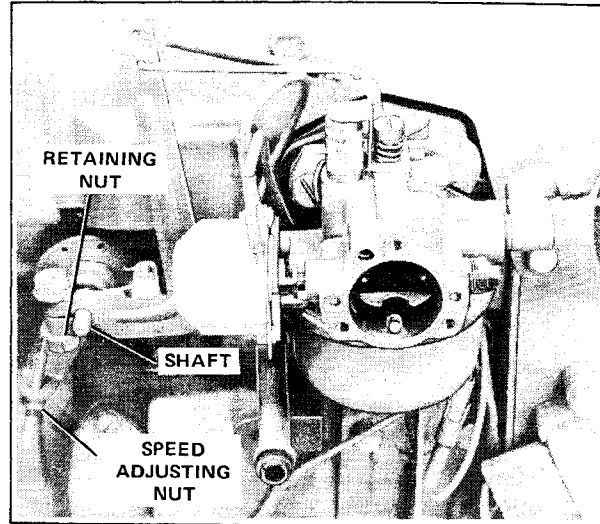

Figure 7-4.
A. Initial Governor Adjustment (Figure 7-4 or 7-5).